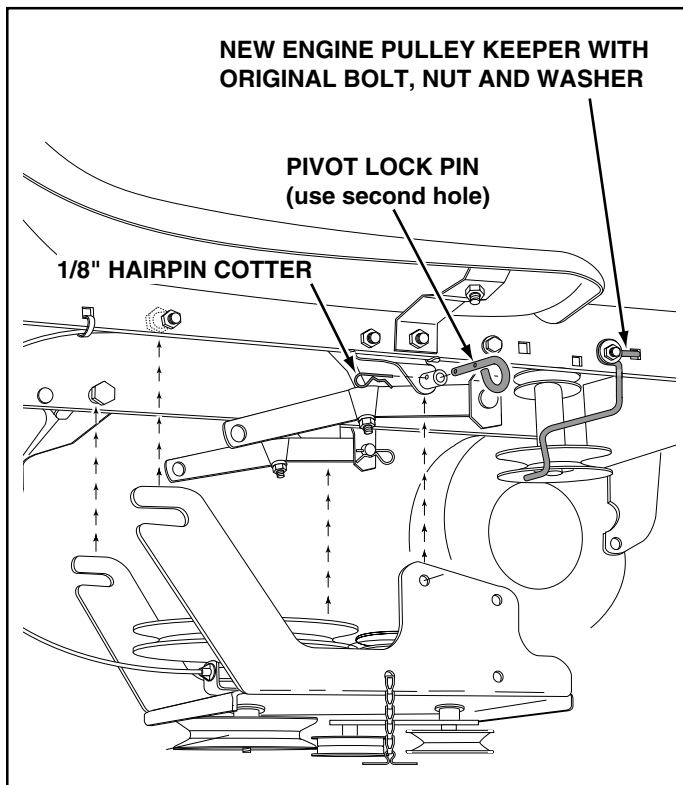

FIGURE 17
- Remove the engine pulley keeper from the side of the tractor frame by removing the washer and nut that secure the keeper. Attach the new pulley keeper supplied with the snow thrower, reusing the original bolt, washer and nut. See figure 17.
- Attach the clutch/idler assembly to the tractor frame as follows. Hook the assembly's notched arms onto the two shoulder bolts you assembled to the inside of the tractor frame. Lift the front of the assembly and attach it to the R.H. and L.H. hanger brackets using two pivot lock pins and 1/8" hairpin cotters. See figure 17.